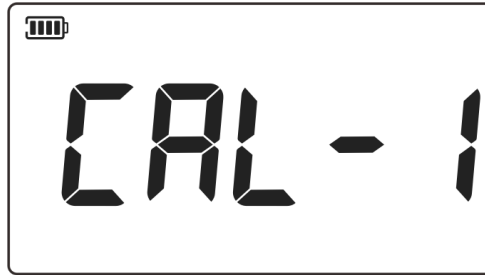

Figure 18 Calibration status menu
4. Start upper limit calibration, as shown in Figure18. After the pressure stabilized, short press Enter button to confirm.
5. Now the calibration is completed, return to calibration status menu and it will show CAL-1, which indicates the calibration takes effect. As shown in Figure 18.